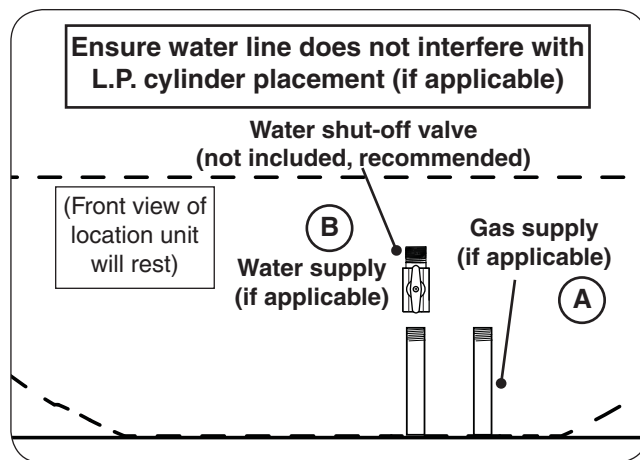

Fig. 22-1 Route gas and water supply (if applicable)
1. Route the gas supply into the area that the unit will rest over (see Fig. 22-1, A).
1. Plumb the water supply into the area that the unit will rest over (see Fig. 22-1, B).
**Note:** It is recommended that a water shut-off valve (not included) be attached to the water supply line. It can be installed remotely or at the end of the water supply line. See Fig. 22-1, B for an example.